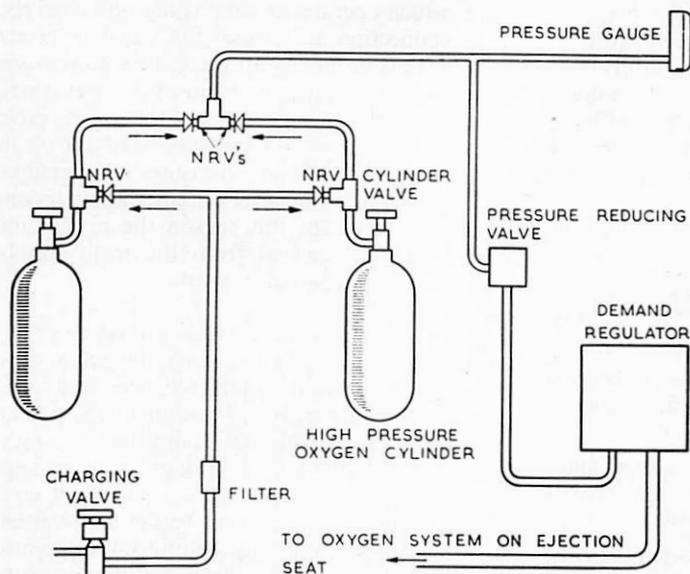

Fig. 1. Typical Automatic Pressure-Demand System.
1. The automatic pressure-demand oxygen system (Fig. 1) has been introduced for use at 42,000 feet for long periods, 43,000 feet for not more than 30 minutes, and 44,000 feet for not more than 15 minutes. It also permits a safe descent in pressurized aircraft from 50,000 feet aircraft altitude in the event of pressure cabin failure. The Mk. 17, Mk. 17B, or Mk. 17C regulators are used to supply oxygen in this system. The Mk. 17 is of British manufacture ; the Mk. 17B is American made and modified to the same standard as the Mk. 17. The Mk. 17C is similar to the Mk. 17, but is fitted with a remote blinker additional to the normal blinker.